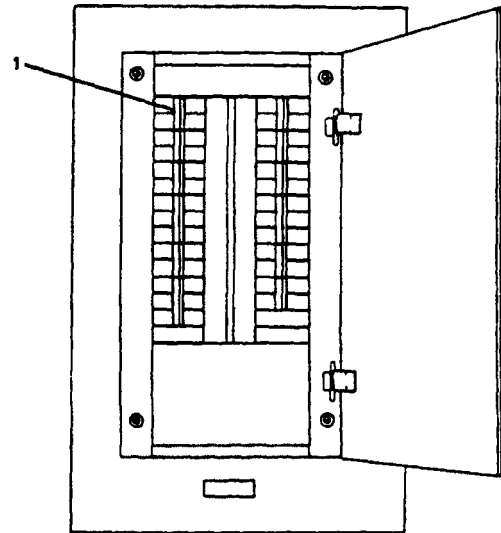

Figure 2-362. Main Deck Distribution Panel No. 3.
- (b) Main deck distribution Panel no. 3 (Figure 2-362). Set MAIN DECK DRINKING FOUNTAIN circuit breaker (1) to ON position.